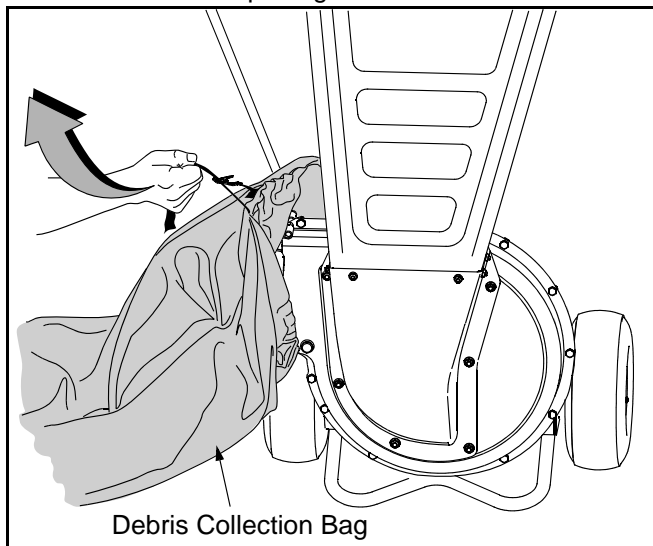

Figure 2
- Empty the bag and reattach to the chute deflector opening. Refer to Figure 2.